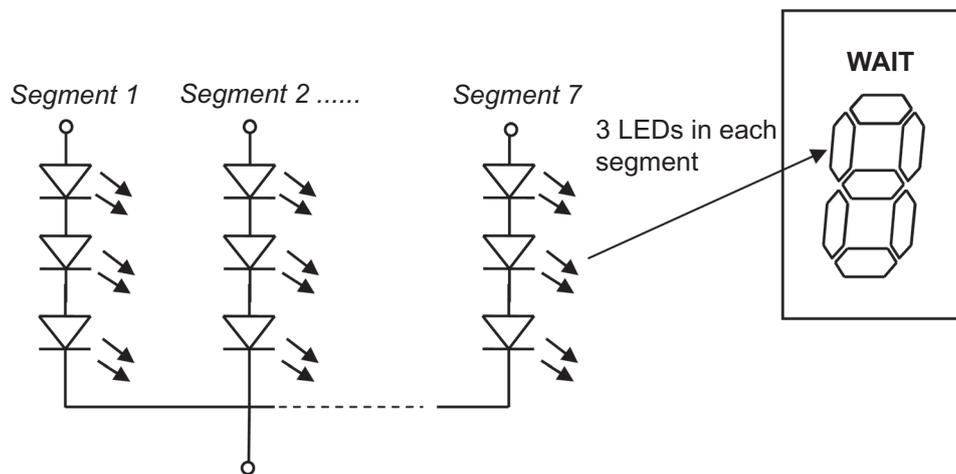

Fig. 2(c)
- (i) State if the LED display shown in **Fig. 2(c)** is connected in common anode or common cathode mode and briefly justify your answer. [2]
- (ii) Calculate the value for a protective resistor for one segment of the display shown in **Fig. 2(c)** if the power supply is 12 volts. Then determine by calculation if a 0.125 watt rated resistor would be suitable. [4]